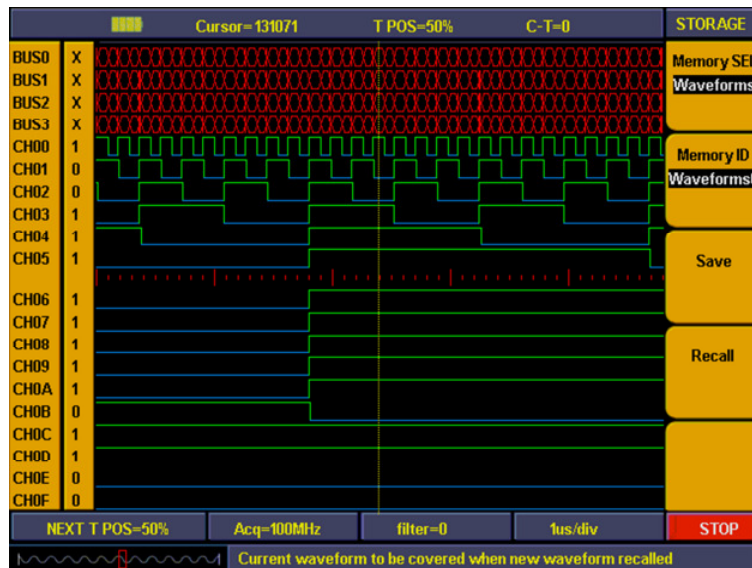

Fig. 96 Waveform saving
8. Press “**F4**” to recall the memory waveform or settings (refer to Fig. 96)